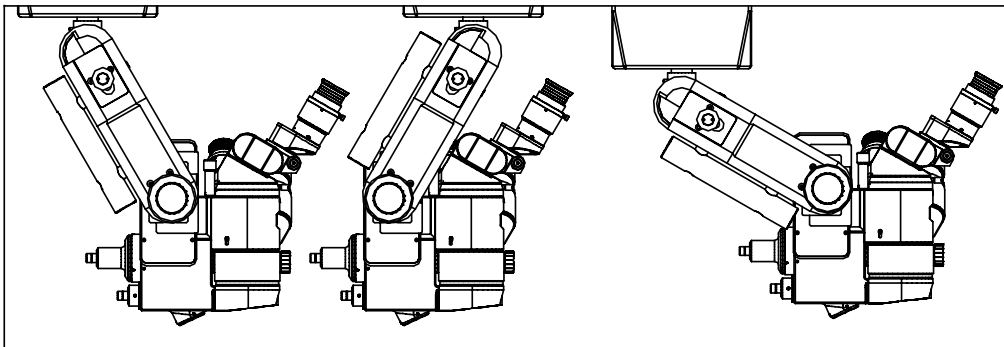

Fig.9
5. Confirm the angle of the holding arm for the microscope. The holding arm could be adjusted at  $30^\circ$ ,  $60^\circ$ ,  $28^\circ$ . When it's set to  $30^\circ$  or  $60^\circ$ , there may be great space above the microscope, and it's suitable to assemble other attachments. When it's set to  $28^\circ$ , and if the X-Y coordinator resets to the center, then the main microscope may be coaxial with the X-Y hanging shaft. When adjusting, pull out the spanner[45] and push downwards to depart the fixation block, and then rotate the holding arm till the needed angle, then the fixation block will rebound to the groove automatically(indicated in Fig. 9).